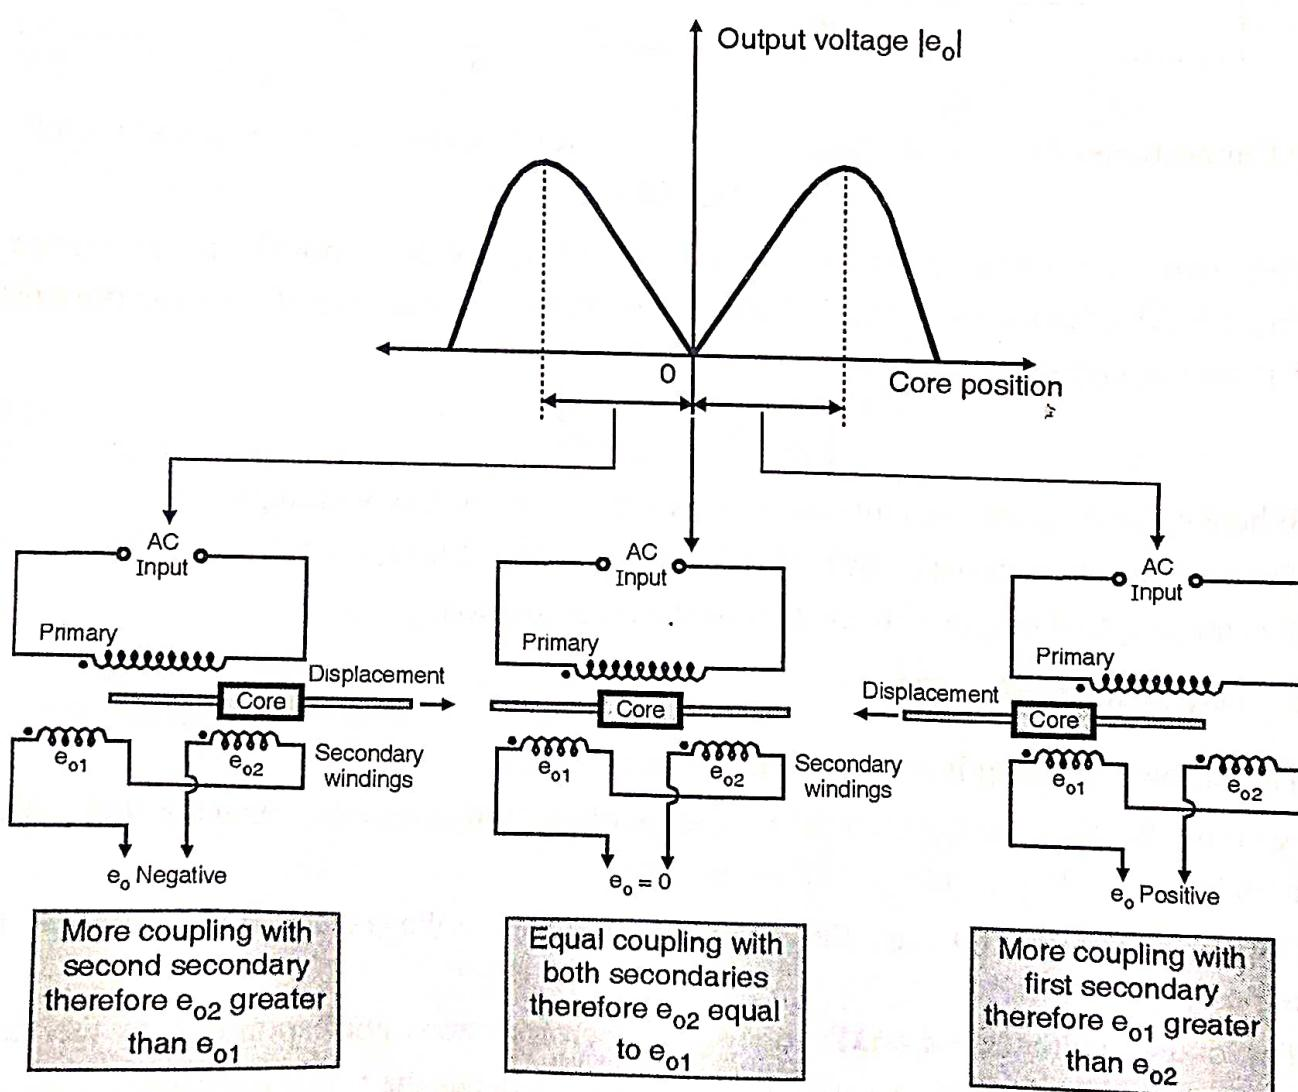

Fig. 1.9.2 : Operation of LVDT
- The operation of LVDT with the help of its transfer characteristics and equivalent circuits is as shown in Fig. 1.9.2.